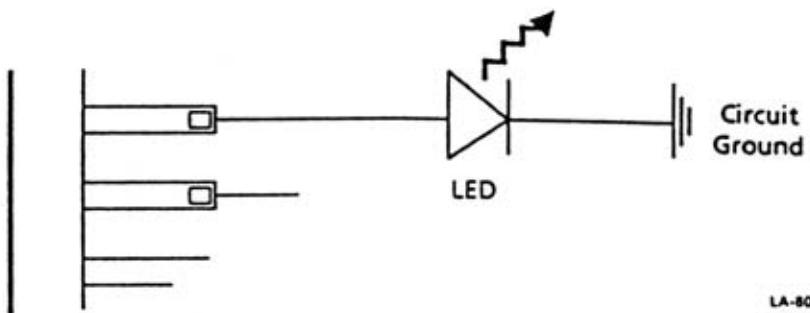

Figure 4-1. Testing Counter Card Output
2. Connect 4 or more LED's between the binary output power supply ground as shown in Figure 4-1. Select (or digit) which will give a reading which is eas interpreted. (Four of the "middle" bits for natural bina tenths or units place for BCD). The LED's should be rat for 3-5 Vdc, 50 mA maximum. The LEDs light when the is high. (Note that output voltage will drop under load - s TTL data books.)